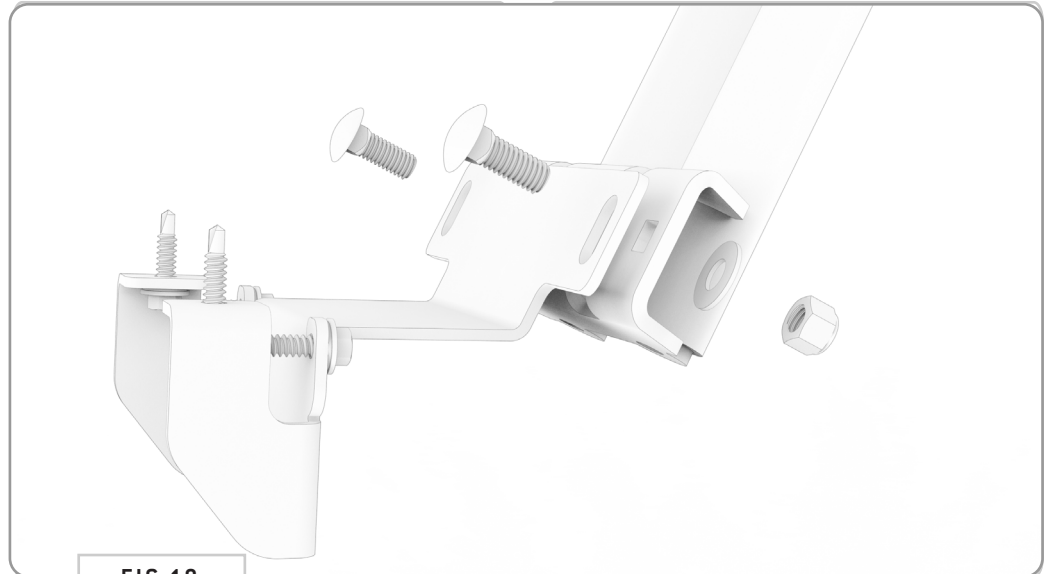

FIG 10
4.1 Surf Pole to Hangar Bracket Mount: Loosely attach your Surf Pole to the installed Surf Pole Hangar Bracket as shown (FIG 10) using the provided 3/8-16" Carriage Bolts, Flat Washers and Nylon Locknuts.